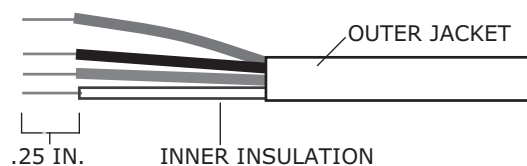

Fig. 27 — Rnet Cable Wire
2. Strip about 1/4 in. of the inner insulation from each wire. See Fig. 27.